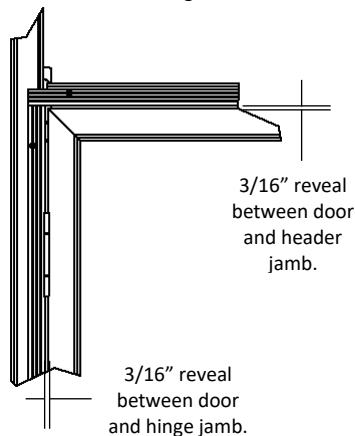

Fig. 6
- There will be approximately  $\frac{3}{16}$ ” reveal between top of door and header jamb and  $\frac{3}{16}$ ” reveal between side of door and hinge jamb. (Fig. 6)
- There will be approximately 3/16" reveal between top of door and header jamb and 3/16" reveal between side of door and hinge jamb. (Fig. 6)